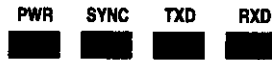

Figure 24. LED status indicators
2. Observe the transceiver LED status panel (Figure 24) for the proper indications. Table 7 provides a complete explanation of the LED functions.